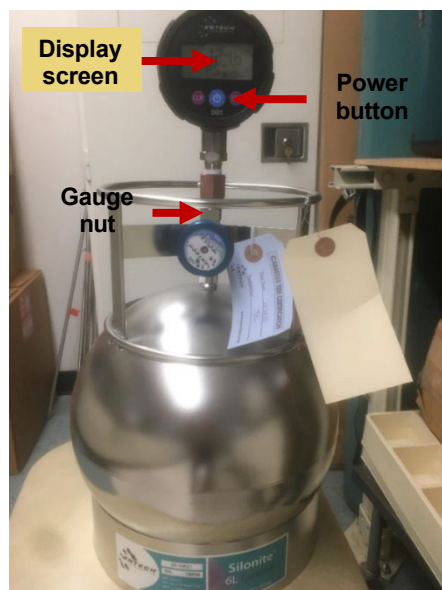

Figure 2. Entech gauge securely connected to canister inlet.
- Retrieve a pressure gauge, thread the nut of the gauge onto the canister inlet, and finger tighten to secure the connection (Figure 2). If it is difficult to attach the gauge to the canister, make sure that threads are not damaged or cross threaded. If the gauge threads are damaged, the nut should be replaced or another gauge used. If the canister valve threads are damaged, the sample is likely lost but consult with the PI on how to proceed.
- Power on the gauge by holding down the blue power button, shown in Figure 2, for 2–3 seconds, and record the initial gauge display reading on the analysis sheet in the ambient air pressure column next to the corresponding canister number and in the laboratory notebook.